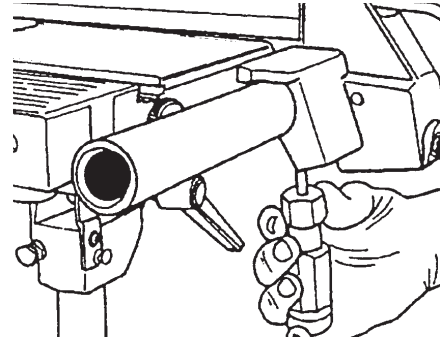

Figure 84
- g. Reach under the Table and use the Large Phillips Screwdriver to tighten the Screw closer to the Base. See Figure 84.